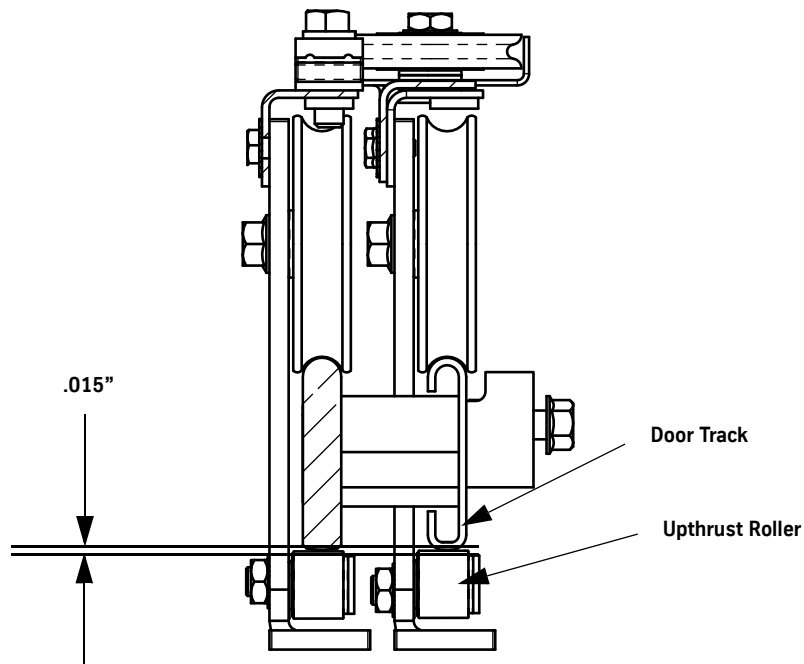

Figure 41- Adjust Upthrust Roller Clearance
2. Adjust the eccentric so that a gap of .015" is between the upthrust roller and the door track. See Figure 41.